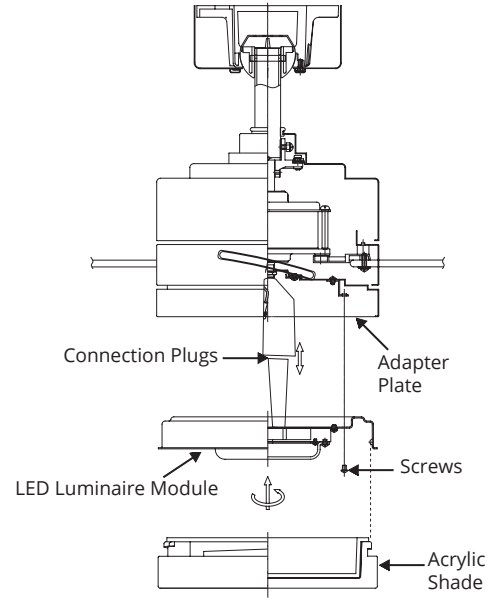

FIG. 21
2. Raise and hold the LED luminaire module close to the mounting plate and proceed to secure the wire connections. Connect the white wire connectors from the luminaire module to the white wire of the fan. Follow the same procedure with the black wire connectors (FIG. 21).
3. Tuck connections neatly into mounting plate, Place the luminaire module key holes over the 2 screws previously loosened from the mounting ring, turn luminaire module until it locks in place at the narrow section of the key holes. Secure by tightening the 2 screws previously loosened and the one previously removed (FIG. 21).